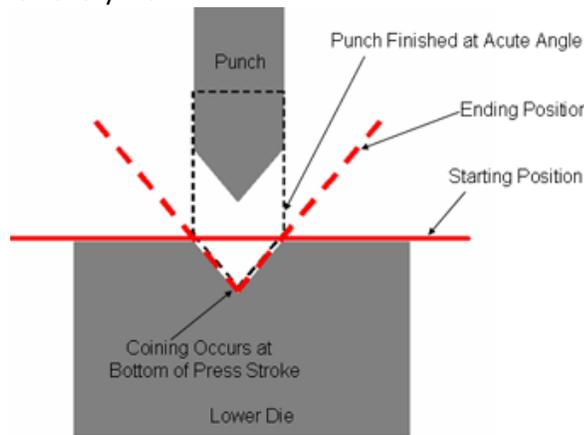

Figure 4 (2)
- Depth of stroke. See Figure 4. The angle of the bend and other dependent dimensions will vary based on the down stroke of the punch every hit.